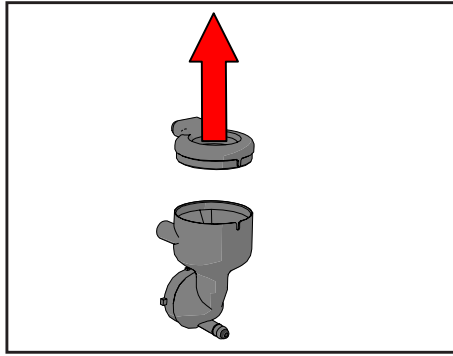

Figure 45.
11. Separate them from each other (see Figure 45).